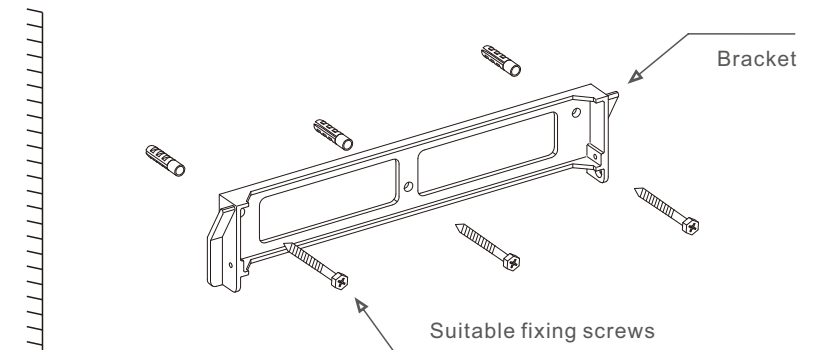
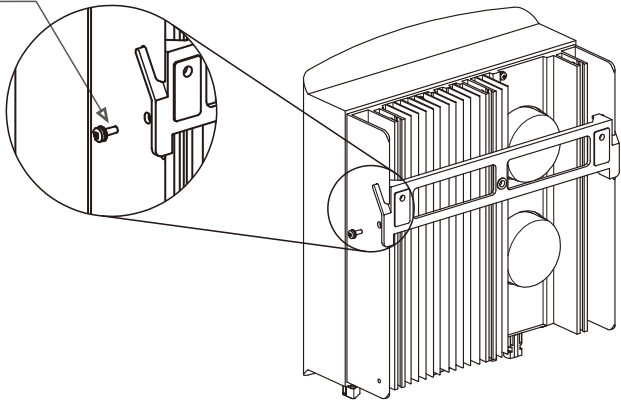

Figure 4.4 Inverter wall mounting
Figure 4.5 Wall Mount Bracket
Please see Figure 4.4 and Figure 4.5 for instruction on mounting the inverter.. The inverter shall be mounted vertically. The steps to mount the inverter are listed below.
2. Make sure the bracket is horizontal. And the mounting holes (in Figure 4.4) are marked correctly. Drill the holes into wall at your marks.
4. Lift up the inverter (be careful to avoid body strain), and align the back bracket on the inverter with the convex section of the mounting bracket. Hang the inverter on the mounting bracket and make sure the inverter is secure (see Figure 4.5).